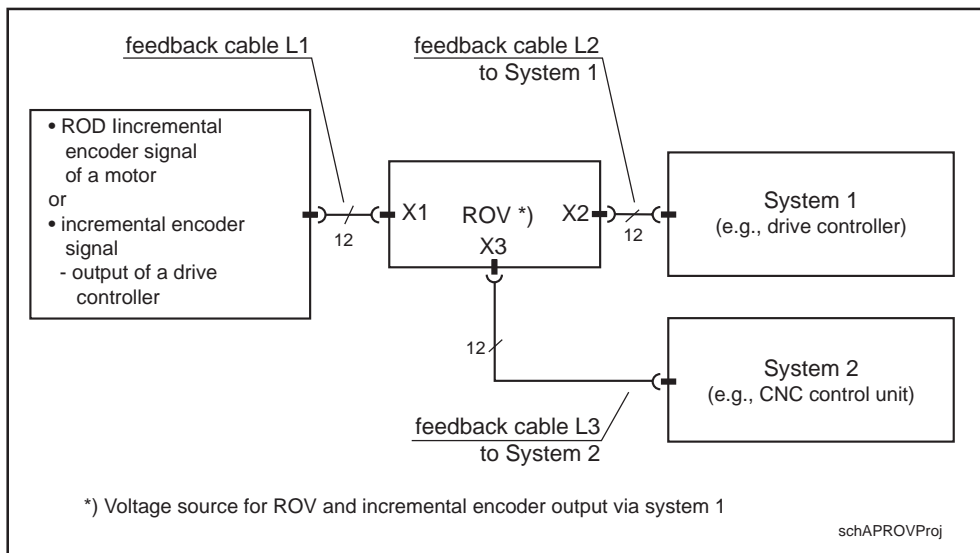

Figure 2.1: Schematic terminal diagram of an ROV encoder junction
*Block diagram* The block diagram found in Figure 2.1 is schematic. It renders a general overview of the electrical connections required to implement the ROV encoder junction.